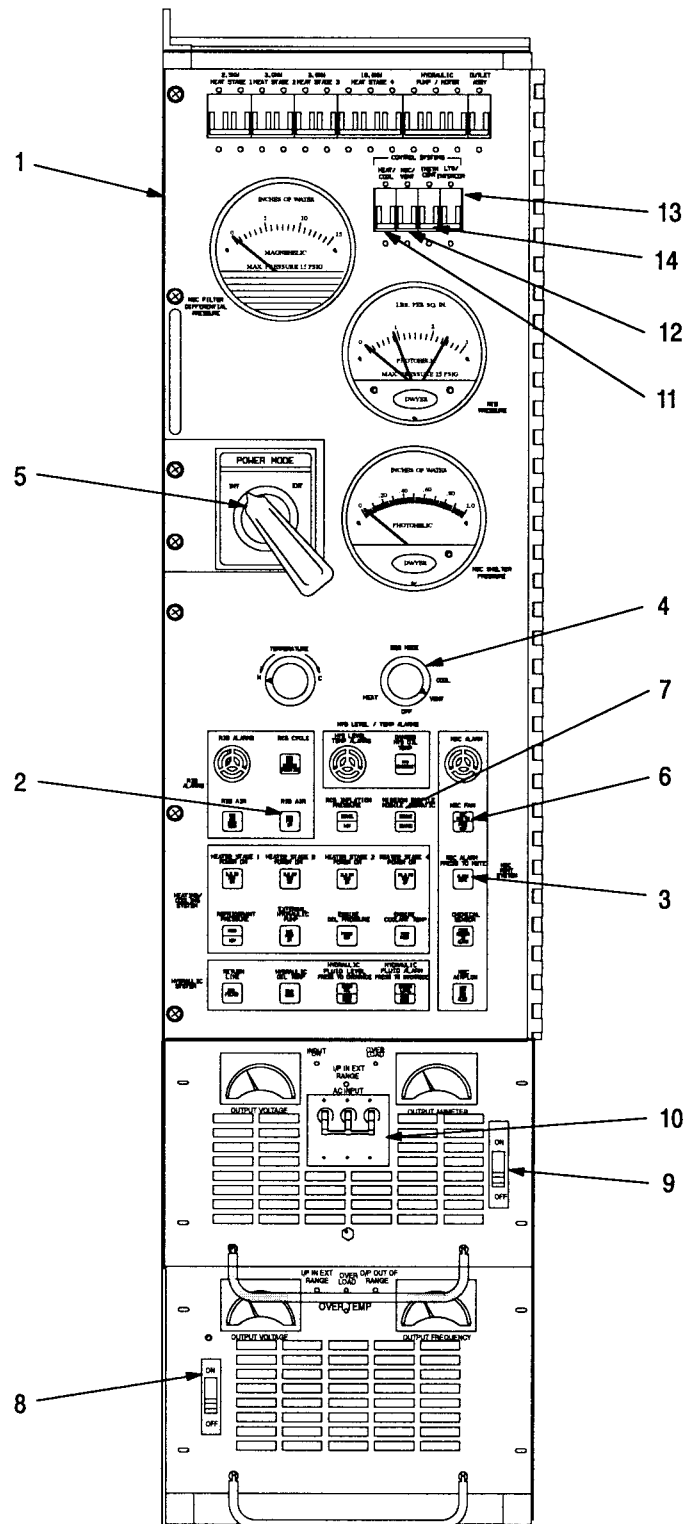

Figure 2-52. Rear Control Panel Striking Settings - NBC Conditions
- (9) Await notification from cab crew that outer ambulatory door has been removed and sealed securely.
- (10) Allow ambulatory airlock to purge for approximately three minutes. Check if airlock has purged sufficiently using CAM.
- (11) Remove inner ambulatory airlock door (6) by loosening spring clips, separating loop and pile fasteners, lifting it from ambulatory airlock opening. Stow in LMS.
- (12) Disconnect airlock pressure gage (7) from ABS wall and stow at rear of LMS.
- (13) Stow medical chests and litter stands in LMS.
- (14) On rear control panel (1, figure 2-52) turn RIB FAN (2) switch to OFF. Indicator light (green) turns off.
- (15) Ensure NBC ALARM (press to mute) switch (3) has been turned off and ALARM MUTE indicator light (blue) is off.
- (16) Ensure ESS MODE selector switch (4) is set to HEAT, COOL or VENT.
- (17) Ensure POWER MODE switch (5) is set to INT.
- (18) Ensure NBC FAN switch (6) is ON. NBC FAN ON indicator lights (green).